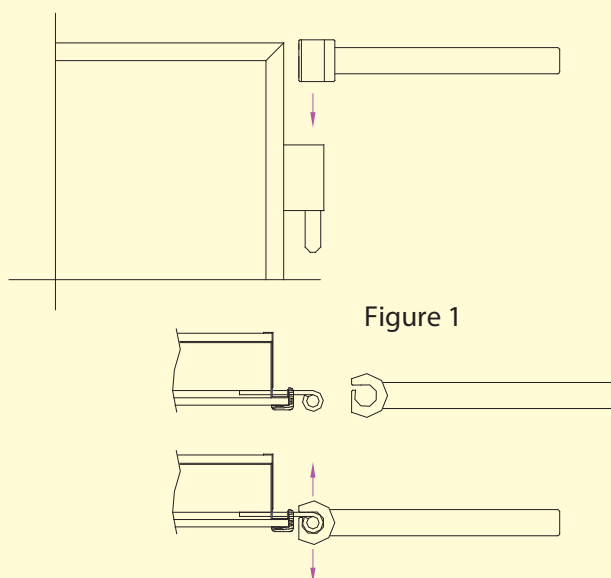

Figure 1
- The "hinge adjuster" tool is used when the normal tools are not sufficient, usually it is used to regulate the uniformity of the door side with hinges, or even when it is a pulling door. Slightly bend the hinge body inward or outward to increase or decrease the space between door and frame on the hinge side (see Figure 1).